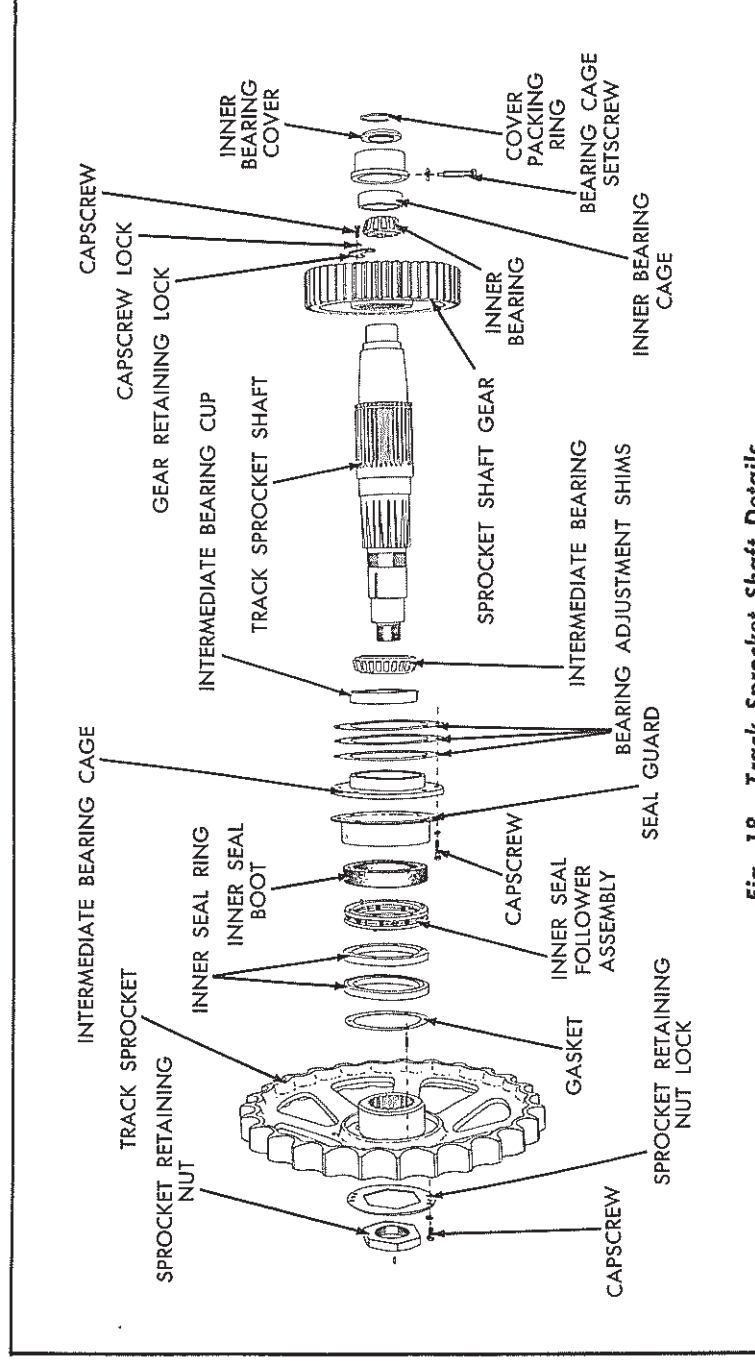

Fig. 18 — Track Sprocket Shaft Details
If the seal assemblies for the track sprocket shaft were removed, the seal assemblies (Figs. 18 and 20) should be installed at this time so that the "NEOPRENE" cement, used for cementing the seal
1. To Install the Inner Seal Assembly (Fig. 18)